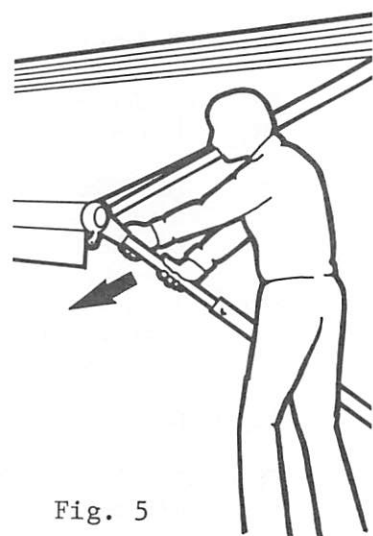

Fig. 5
- Step 5. Lock the rafter arm in position by pressing down on the steel main arm bar (Figure 5) until the ratchet stud clicks. At this point the fabric will be taut.